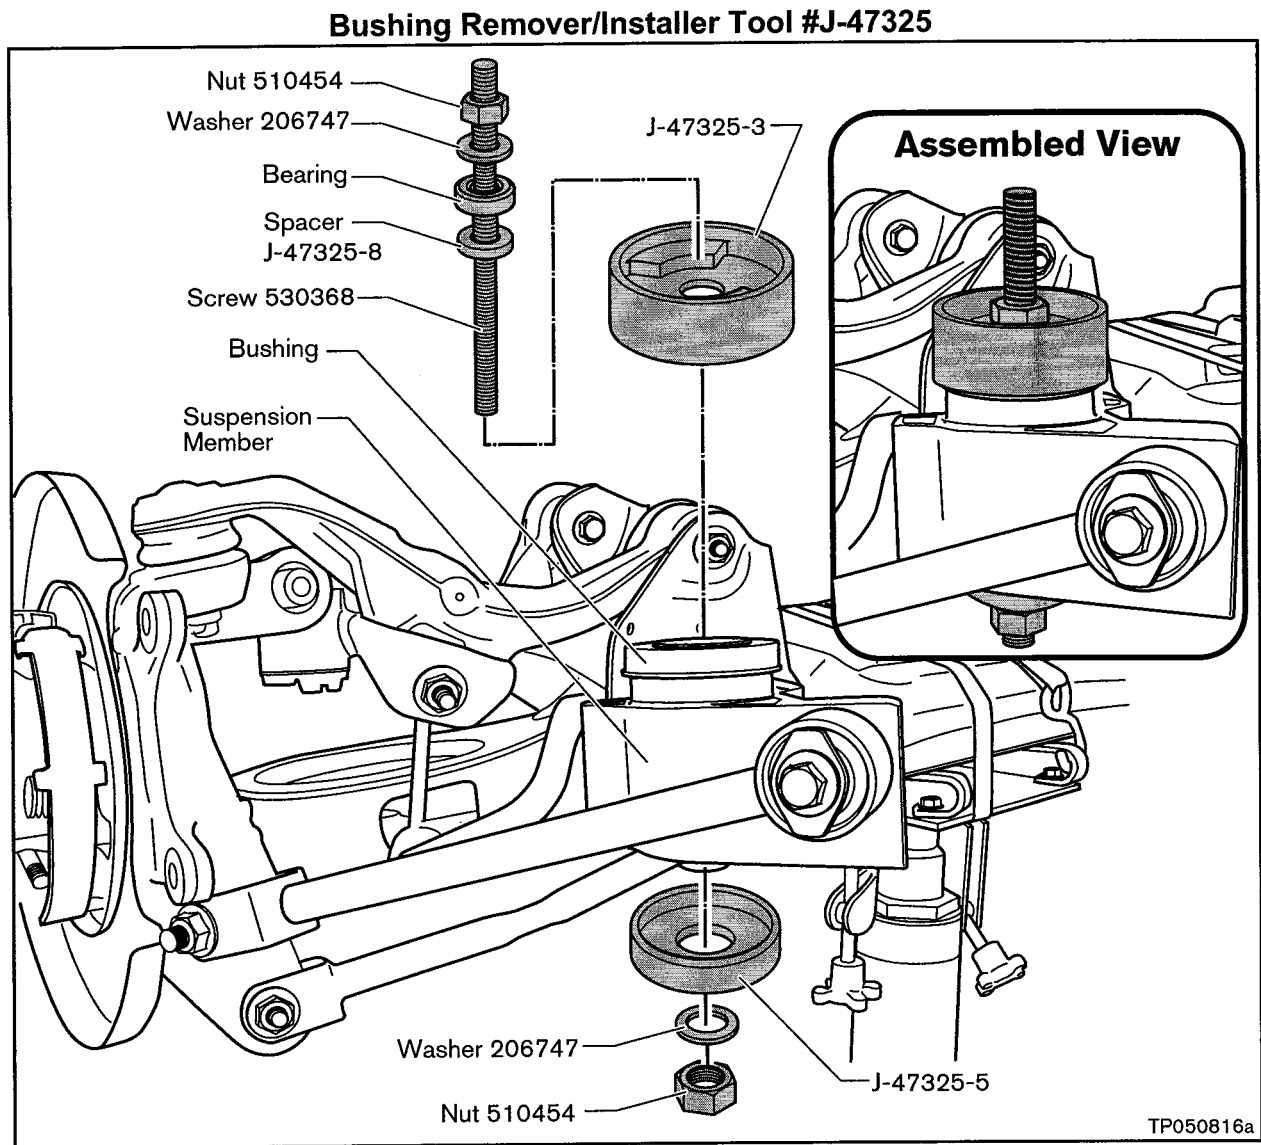

Figure C10
d. Install the bushing remover/installer Tool #J-47325 as shown in Figure C10.